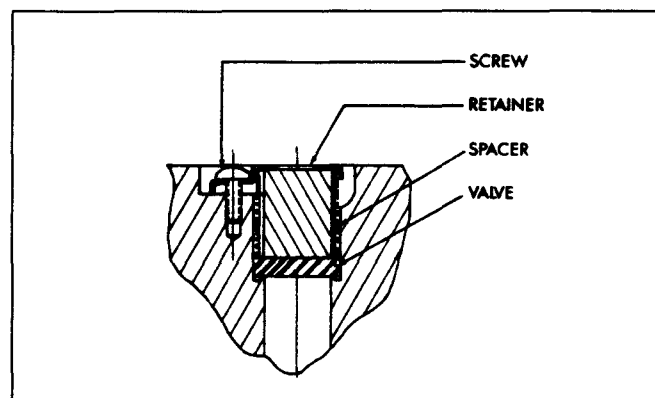

Fig. 1 – Bypass Valve with Spacer Installed
*If the valve is secured by a retainer and screw, remove the spring and install a spacer of the appropriate length under the retainer (Fig. 1). The spacer must be long enough to contact the valve and keep it from moving during the dynamometer test. When the test is completed, remove the spacer and reinstall the spring. Then change the filter(s).*